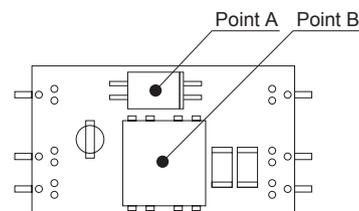

Fig.7.3 Temperature Measuring Points in the case of Forced Air Cooling
① SU3
■In the case of forced air cooling (1m/s), please have sufficient ventilation to keep the temperature of point A in Fig.7.3 at 115°C or below and that of Point B at 120°C or below.